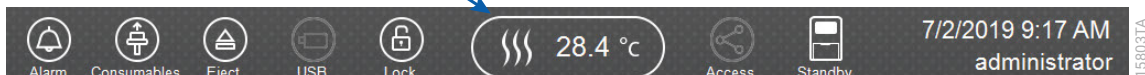

Figure 6. Preheating oven.
2. Select the **Oven Temperature** icon in the Header on the 'Main Menu' screen as shown in Figure 6 to start preheating the oven temperature to 60°C. The temperature displayed will change as the temperature of the oven increases. When 60°C is reached, a check mark will appear adjacent to the temperature.